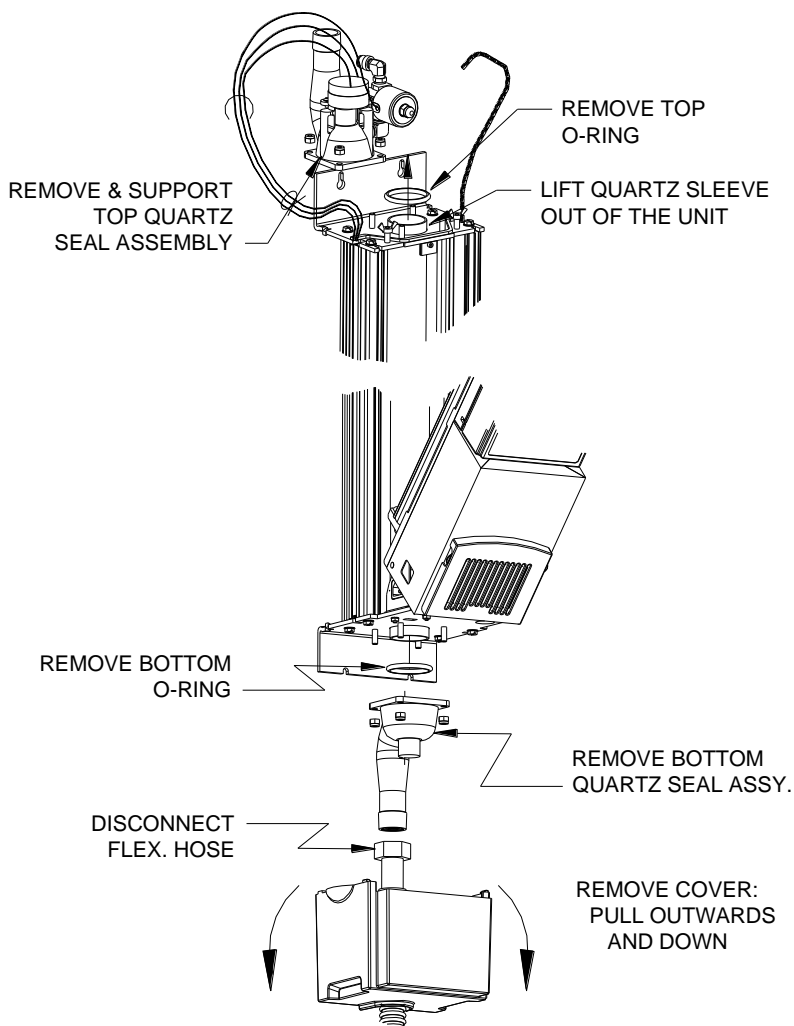

Figure 4D
**Step 4:** If the quartz is still not clean, it requires replacement. This is done by removing the bottom quartz seal assembly (see Figure 4D).
**Step 9:** Replace the bottom quartz seal assembly (Figure 4D) by installing the four fasteners in an alternating pattern (top left, bottom right, bottom left, then top right) Ensure that the connection port is at the backside of the unit.